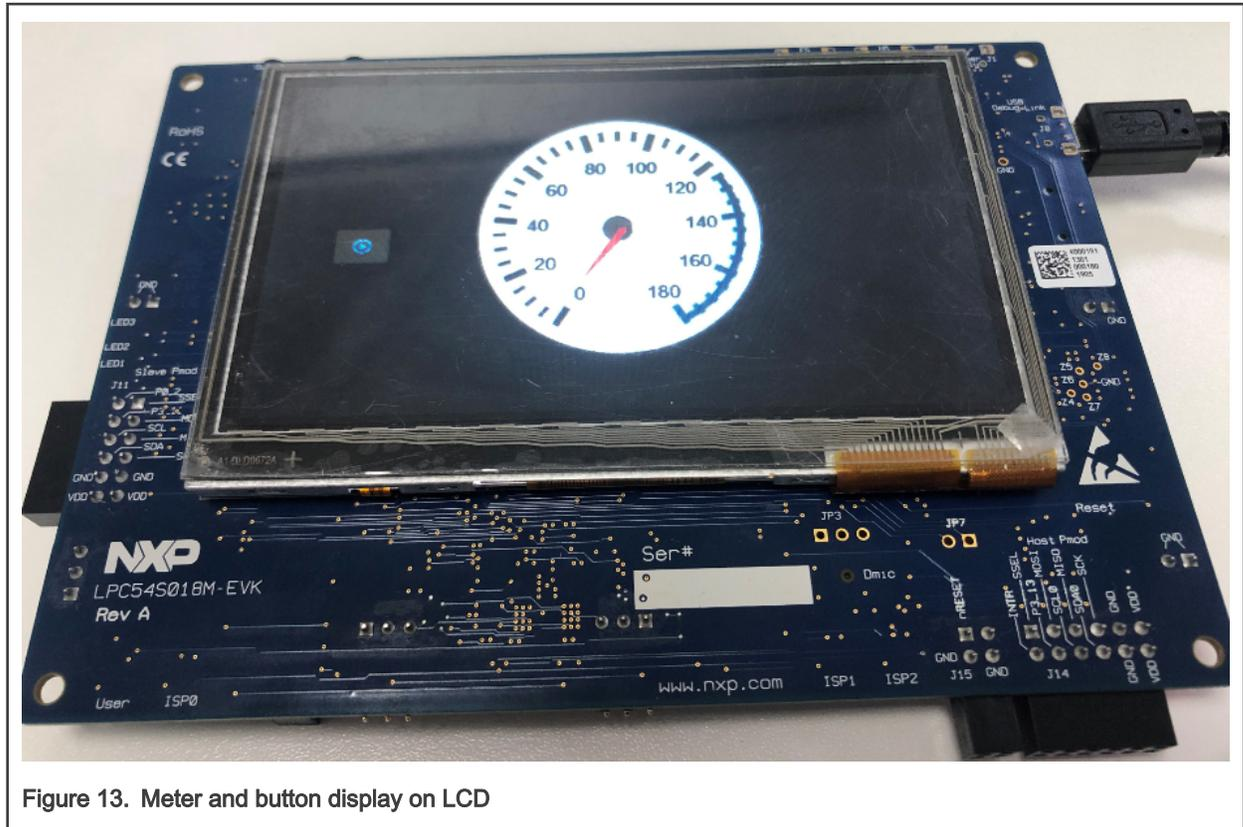

Figure 13. Meter and button display on LCD
- If there is no error after the compile, users can download the image to LPC54608 EVK to test it. The LCD can display the meter and the button, as shown in Figure 13.